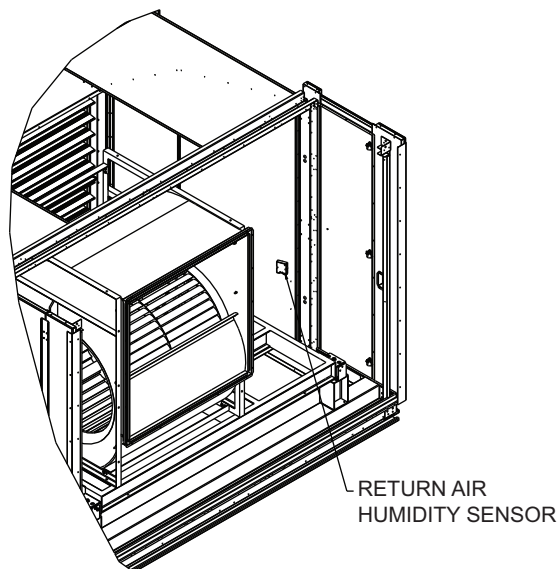

Fig. 9 — Return Air Humidity Sensor Location for 48/50N Series Units
2. Open the power exhaust section door/panel to gain access to the location where the humidity sensor will be mounted. See Fig. 9.
3. Install the humidity sensor using the screws provided. See Fig. 9. Attachment holes are pre-punched.